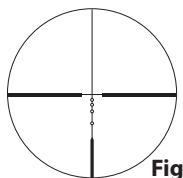
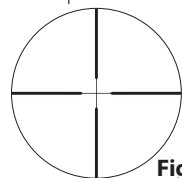
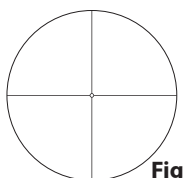
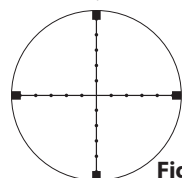

Fig. 3-1
Fig. 3-2
Fig. 3-3
Fig. 3-4
(1) Focusing
- 1 Look through the eyepiece with your eye positioned about 10 cm (4 in) away from the eyepiece to see the BDC reticle (Fig. 3-1), the Duplex reticle (Fig. 3-2), the Fine Crosshair w/Dot reticle (Fig. 3-3), or the Mildot reticle (MIL standard) (Fig. 3-4). Be sure your eye is positioned with proper alignment and with proper eye relief, otherwise the view will “black out.”
(2) Magnification